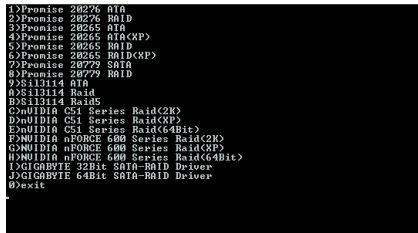
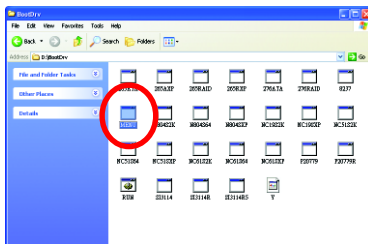

Figure 11
Figure 12
Step 2: When the controller menu (Figure 11) appears, remove the startup disk and insert the blank formatted disk. Select the controller driver by pressing the corresponding letter from the menu. For example, from the menu in Figure 11, press G to select (G) NVIDIA nFORCE 600 Series Raid (XP) if you wish to install Windows XP (32-bit). Your system will then automatically zip and transfer this driver file to the floppy disk. Press 0 to exit when finished.
Use an alternative system and insert the GIGABYTE motherboard driver CD-ROM. From the CD-ROM drive folder, double click the MENU.exe file in the BootDrv folder (Figure 12). A command prompt window will open similar to that in Figure 11.